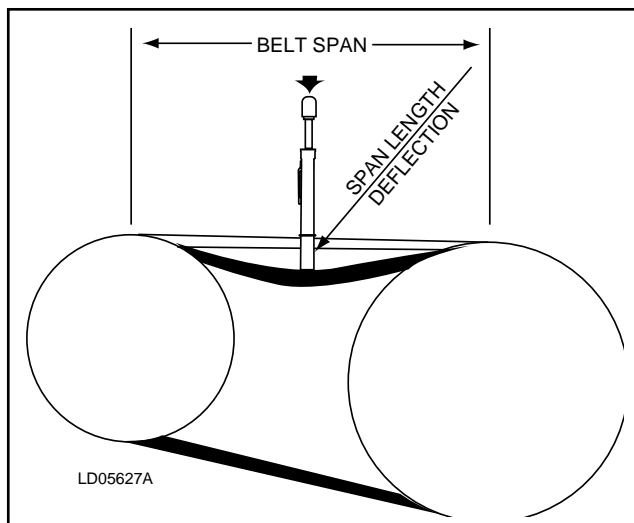
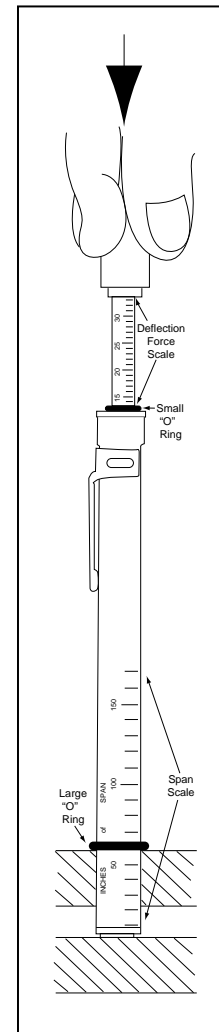

FIG. 4-5 – BELT TENSIONING
FIG. 4-6 – BELT TENSIONING GAUGE
Check belt tension (see Fig. 4-5, “Belt Tensioning” and Fig. 4-6, “Belt Tensioning Gauge”).
1. Measure belt span (see Fig. 4-5).
2. Position bottom of the large “O” ring on the span scale at the measured belt span (see Fig. 4-6).